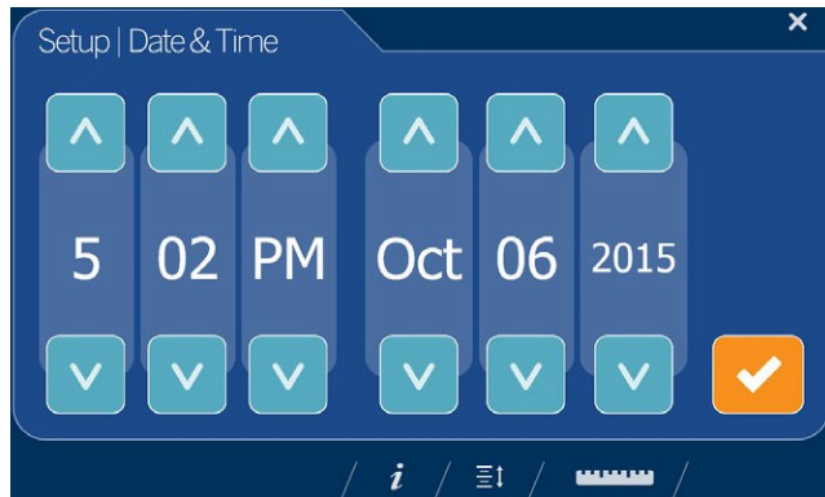

Figure 2-5. Date and Time
1. Select Time Zone, Figure 2-5. The current time zone displays.